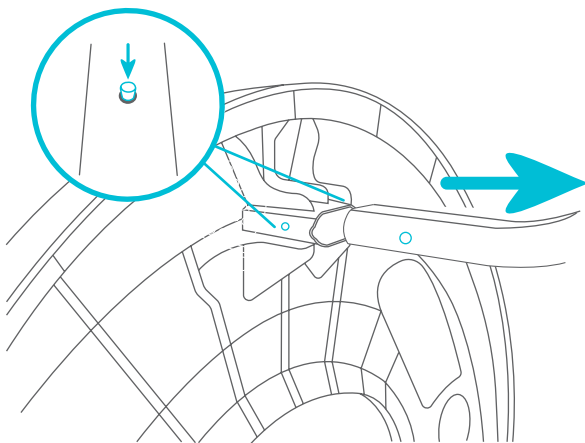

Fig. 8
- 8 • To remove the legs from the tabletop, press in the pin and pull the leg out. Repeat for the other 2 legs (Fig. 8).